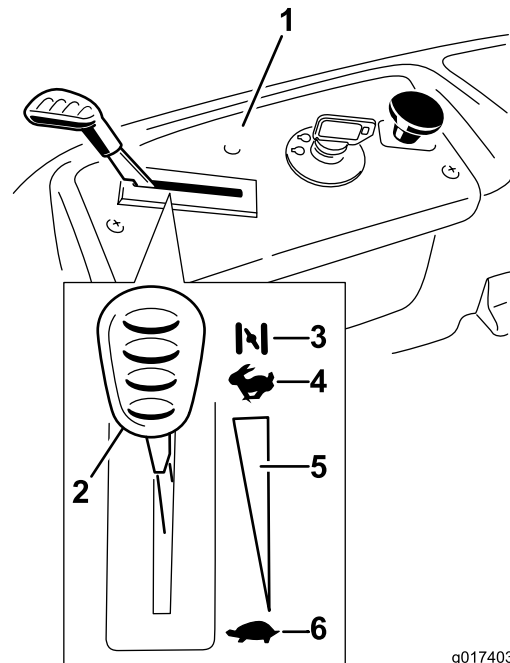

Figure 12
3. Move the throttle lever to Choke before starting a cold engine (Figure 12).
- After the engine starts, move the throttle lever to Fast (Figure 12). If the engine stalls or hesitates, move the throttle lever back to Choke for a few seconds. Repeat this as required.
- Turn the ignition key to Off (Figure 12) and remove the key.